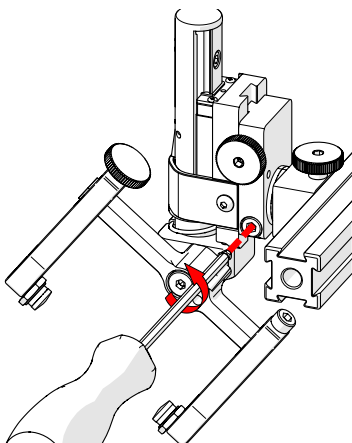

Fig. 184 - Loosen 3 mm screw
2. Using the supplied 3 mm hex driver (*Fig. 1*), loosen the longitudinal adjustment screw (*Fig. 184*).